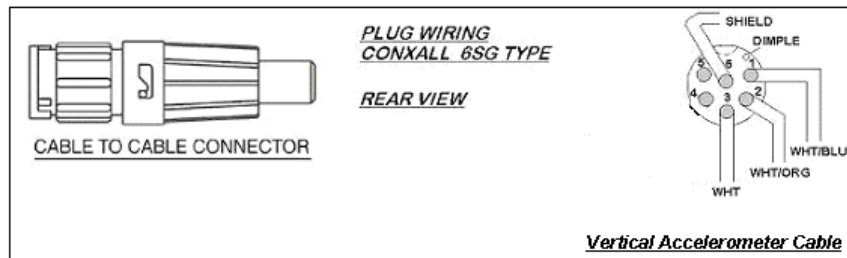

Figure C- 10: Vertical Accelerometer Wiring
- 050 Verify that the proper connector is in place. Refer to Figure C- 10.